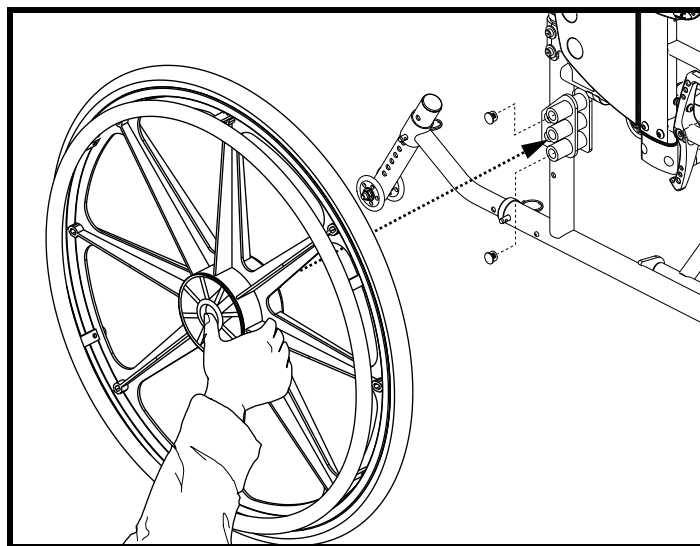

Figure 13. Drive Wheel Removal - Quick Release
1. Press the quick-release button and pull the drive wheel off. **See figure 13.**